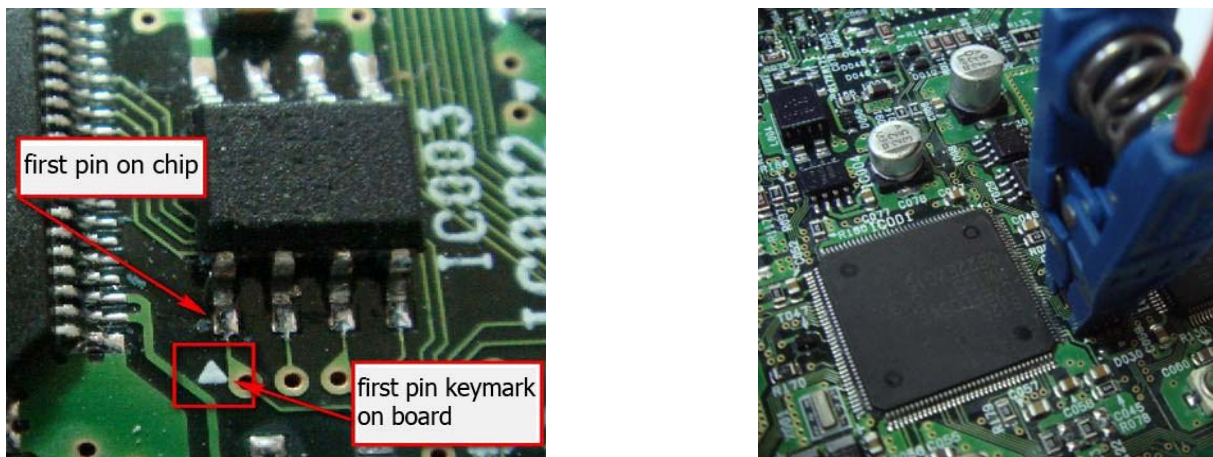

Fig. 6 Connection example with Certification unit board
4. Attach clip-connector to the Certification unit board (fig. 6). **Attention!** Red wire on clip-connector must be linked up with first pin on IC003 chip. Serious damage to Certification unit may occur if connection is wrong.
3. Attach clip-connector to the Certification unit board (fig. 6).
4. Attach clip-connector to the Certification unit board (fig. 6).